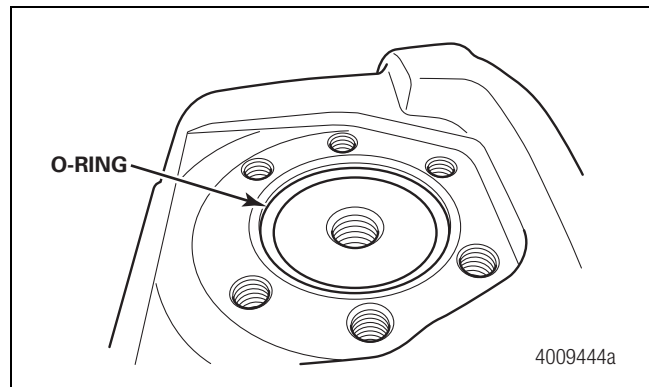

Figure 10.17
6. Remove the king pin cap and O-ring, if equipped, from the knuckle. The lower king pin cap has shims and a thrustwasher that must be retained and re-installed. Figure 10.17 and Figure 10.18.